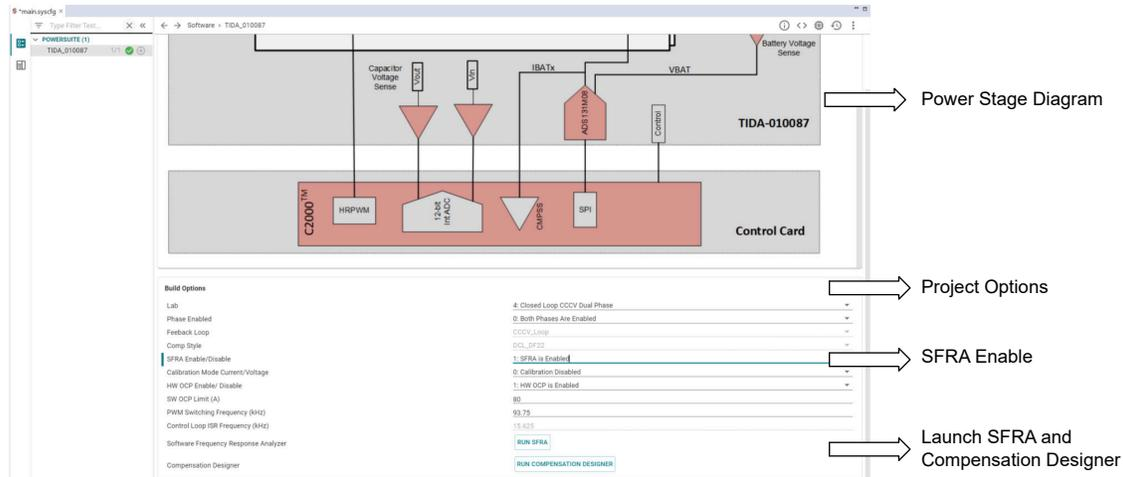

Figure 3-2. powerSUITE Page for the Design
4. This action imports the project into the workspace environment, and a configuration page with a GUI similar to Figure 3-2 appears.